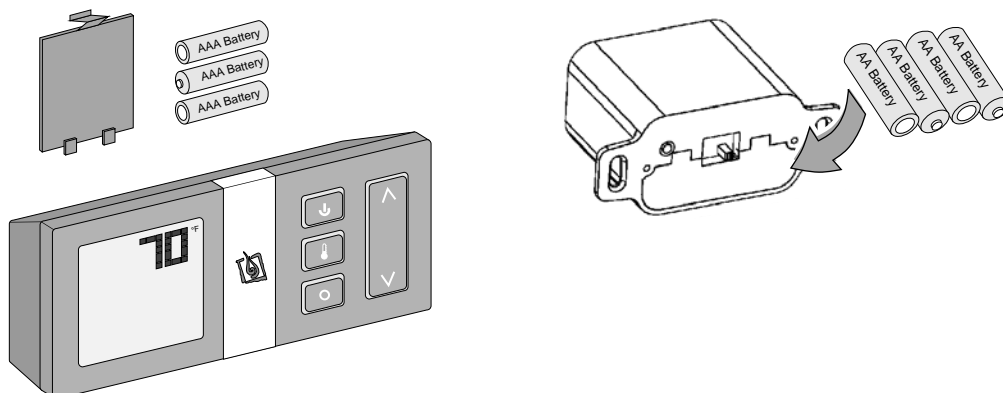

Figure 13
Install four AA batteries into the battery holder (see Figure 13 below). These batteries act as a power backup in case the household (AC) current goes out.